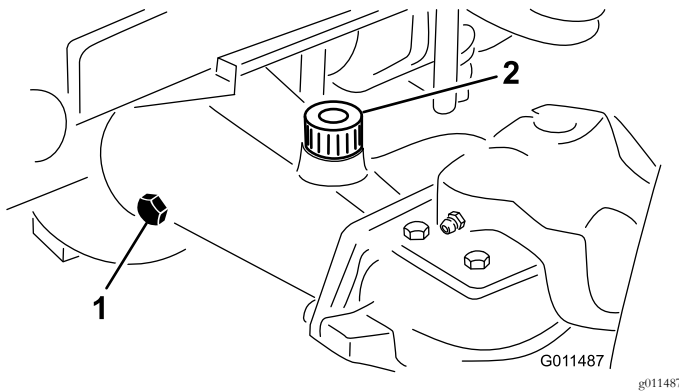

Figure 15
- Remove a check plug from one end of the axle (Figure 15) and make sure that the lubricant is up to the bottom of the hole. If the level is low, remove the fill plug (Figure 15) and add enough lubricant to bring the level up to the bottom of the check plug holes.